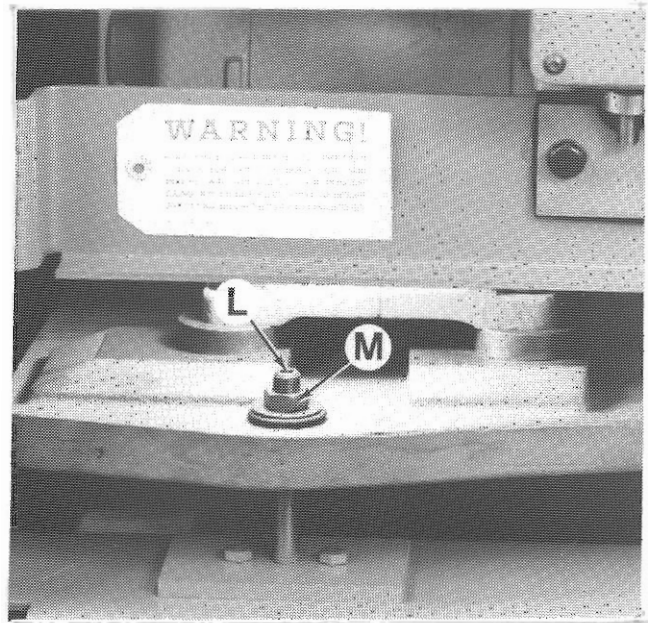

Figure 2.6 - Motor Plate Nut
1. Loosen nut "M", Figure 2.6.